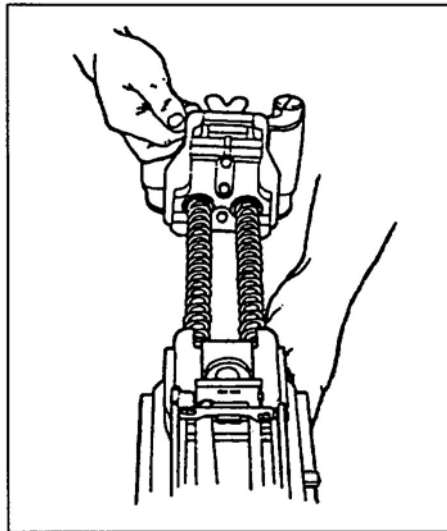

Figure 3. Removal of bolt and backplate assembly.
- (4) Lift up slightly on the backplate assembly. Slowly pull the bolt and backplate assembly out of the receiver.
- (5) Support the bolt with one hand and maintain a control grip with the other hand. Lift the bolt up slightly and remove it (Figure 3).